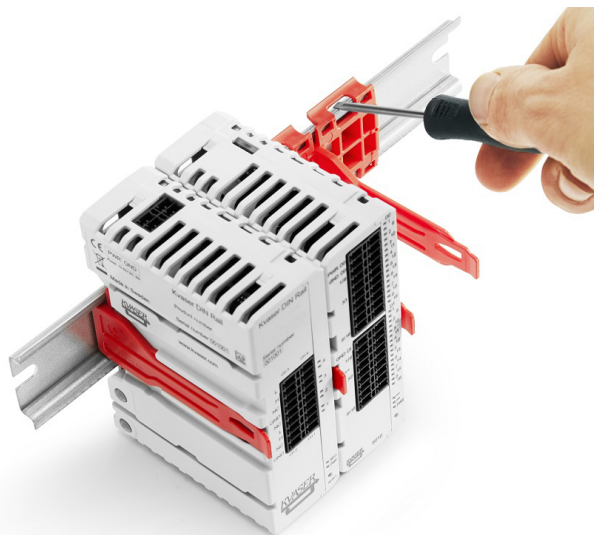

Figure 8: Removing the mounting clip from the DIN Rail.
3. Remove the mounting clip from the DIN Rail by use of a screw driver, see Figure 8 on Page 13.